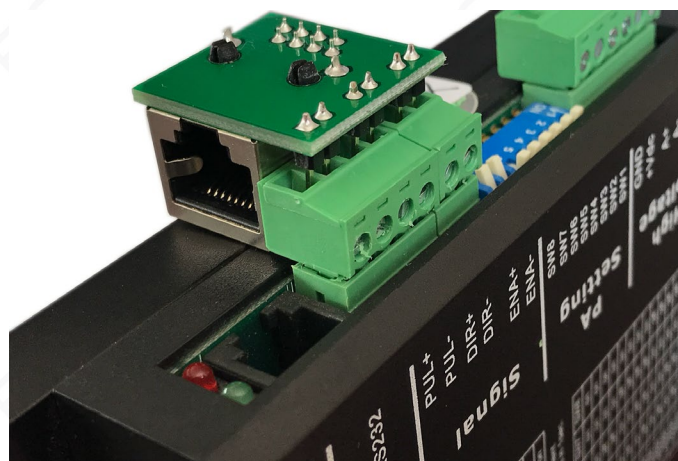

Fig. 9: Mounting the RJ45 adapter on the terminal block
- Assemble the adapters as shown in Fig. 9.